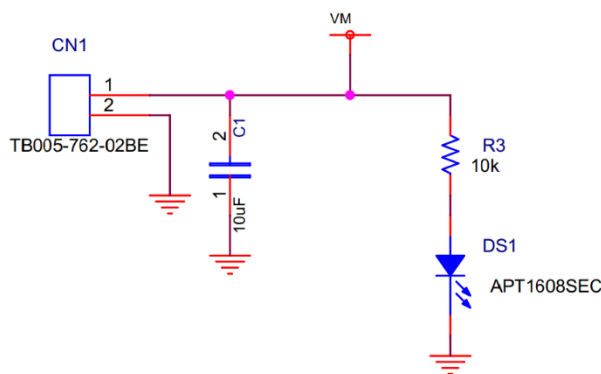

Fig. 4.1 VM Power Supply Input Circuit
Motor power supply (VM) is the main power supply in this design, and it is input via the motor power supply input connector CN1. This power supply is sent directly to the TC78B011FTG motor predriver IC and to the inverter circuit made up of TPH1R204PB MOSFETs. Fig. 4.1 shows the VM power supply input circuit. VM LED (DS1, Orange) turns on when VM power supply is available. VM input voltage range is from 11 to 27 V.